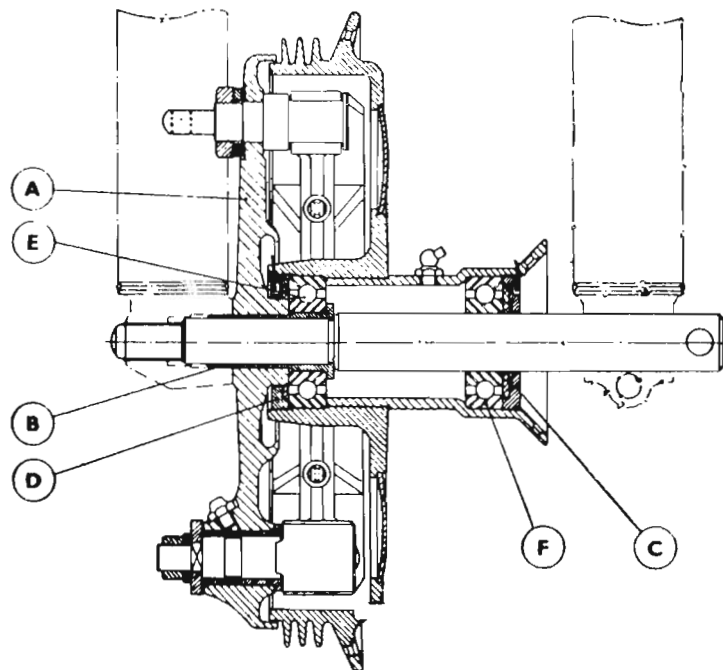

FIG. F.7. Section of front hub.
The brake plate (A) is a push-fit on the bush (B) (see Fig. F.7).